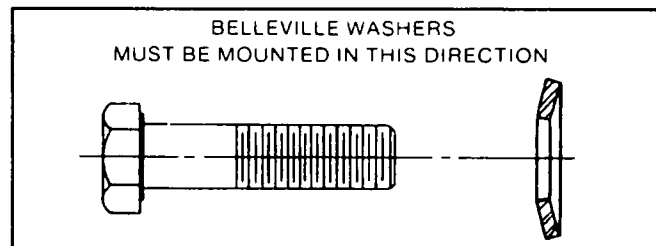

Figure 5. Fan Capscrew and Belleville Washer
4. To reinstall fan, slide fan onto shaft. Make sure the fan mounting surface is toward the drive hub. Align reference marks and mount the fan to the drive hub with capscrews and belleville washers (Figure 5). Tighten capscrews to 60 foot-pounds (81 N-m).